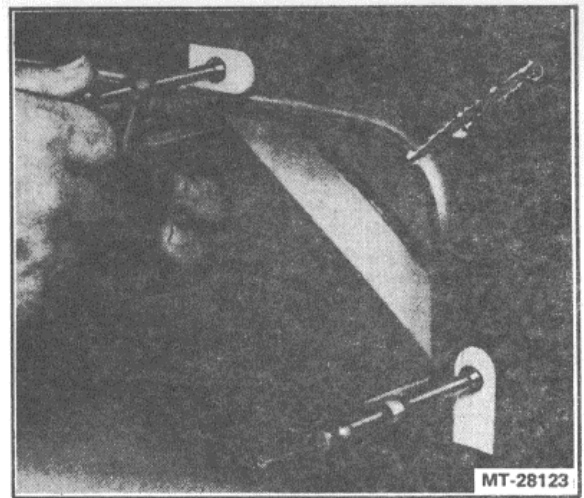

Figure 24. - Aligning Panel - (Crack Shown - Typical)
2. If panel is out of alignment, realign it with C-clamps or other clamping device (Figure 24).